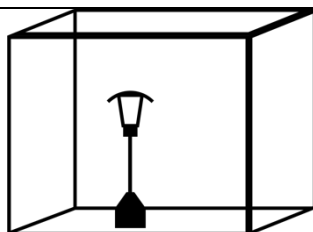

Fig 2.
- 3) The surface area is the sum of the walls surface. (See figure 2)